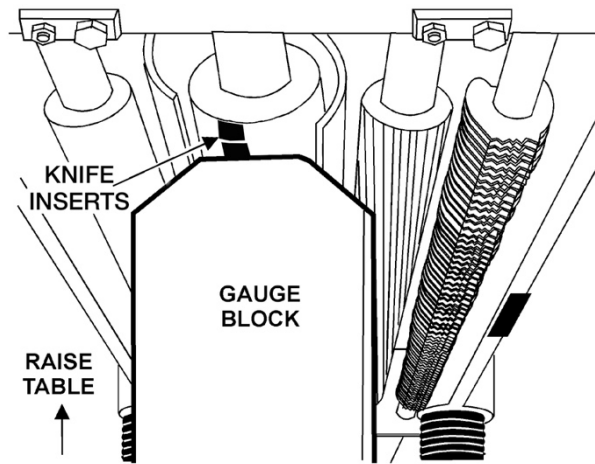

Figure 16
2. Place the gauge block (Figure 16) on the work table directly under the edge of a knife insert as shown. Make slight contact with the knife insert edge by gently raising the table.